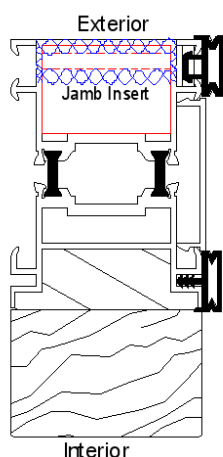

FIG 1.
- Identify the hinge jamb for stacking side and latch jamb as per FIG 1 thru 2.